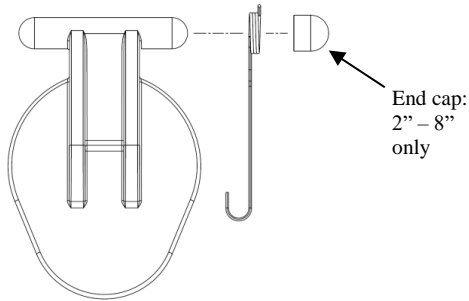

Fig. 2A: Disc, spring, and end cap (unassembled) 2" – 8"
- 3.2.2.4 Install spring over disc shaft. The shorter leg of the spring should point away from the disc, and the hook on the longer leg of the spring should wrap around the rib on disc. (See Fig. 2A.)